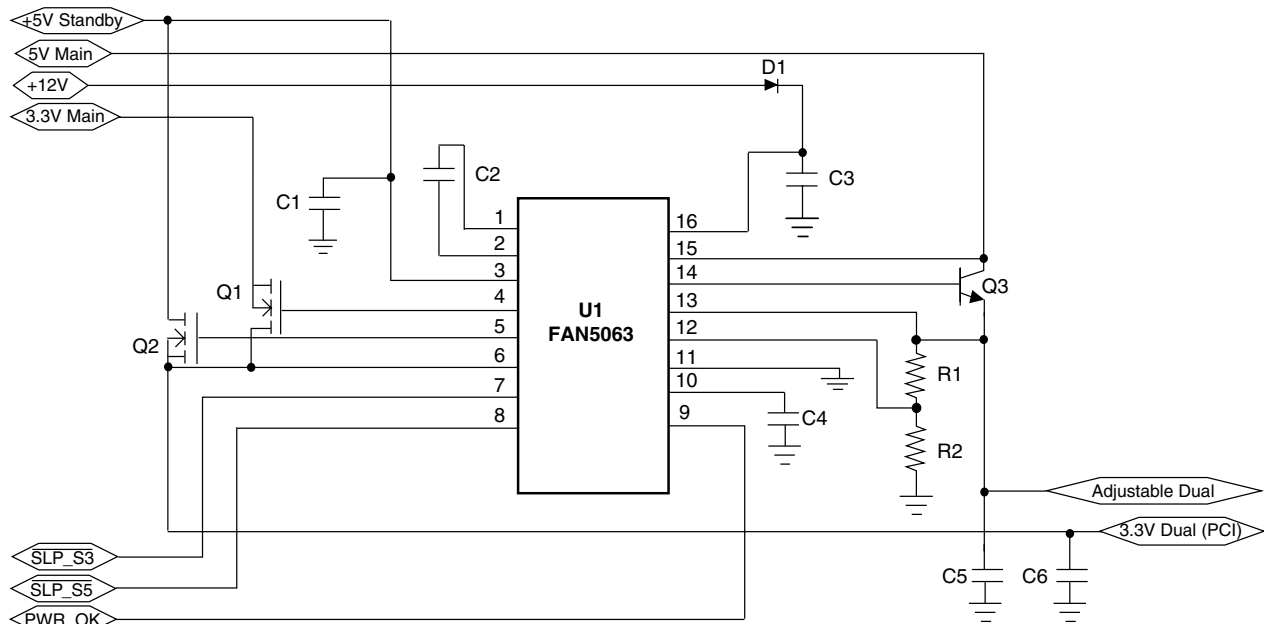
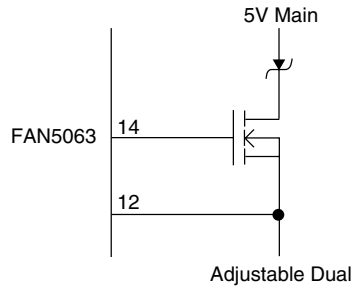

Figure 4. ACPI Selector
Figure 7. Adjustable Dual with MOSFET
($V_{+5VSTBY} = V_{+5VMAIN} = 5V$, $V_{+3.3V} = 3.3V$, $V_{+12V} = 12V$ and $T_A = +25^\circ C$ using circuit in Figure 4, unless otherwise noted.)
3.3V dual is generated by two MOSFETs, one from +3.3V main, the other from +5V standby, as shown in Figure 4. When main power is present, the MOSFET Q1 is turned on as a switch, so that input and output are connected together. When main power is absent, the MOSFET Q2 is controlled by the FAN5063 as a linear regulator, generating a regulated 3.3V from +5V standby. The MOSFET Q1 must be connected as shown in the figures, to avoid back-feed.
Adjustable dual is generated by one external NPN bipolar acting as a linear regulator from +5V main, and one linear regulator internal to the FAN5063 from +5V standby, as shown in Figure 4, and in the block diagram on the front page. When main power is present, the NPN Q3 linear regulator, and when main power is absent, the internal linear regulator is on. Q3 cannot be substituted with a MOSFET. If used in one direction, the MOSFET's body diode would permit back-feed; if used in the other direction, it would short-circuit the linear regulator action.
The output voltage of the Adjustable Dual is set with two resistors as shown in Figure 4, according to the equation.
In main power operation, the FAN5063 is run from the +12V main supply. This supply also provides voltage to the various MOSFET gates. However, during standby, this supply is off. To provide power to the chip and the appropriate gates, the FAN5063 incorporates a free-running charge pump. As shown in Figure 4, and in the block diagram on the front page, a capacitor attached between pins 1 and 2 of the FAN5063 acts as a charge pump with internal diodes. The charge pump output is internally diode or'ed with the 12V input. The 12V input must have a series diode to prevent back-feeding the charge pump to the +12V main when in standby. The 12V input line needs a bypass capacitor for high-frequency noise rejection.
Instead of the bipolar transistor shown in Figure 4 for Q3, the linear pass element for the adjustable dual, a MOSFET and schottky diode can be used as shown in Figure 7.